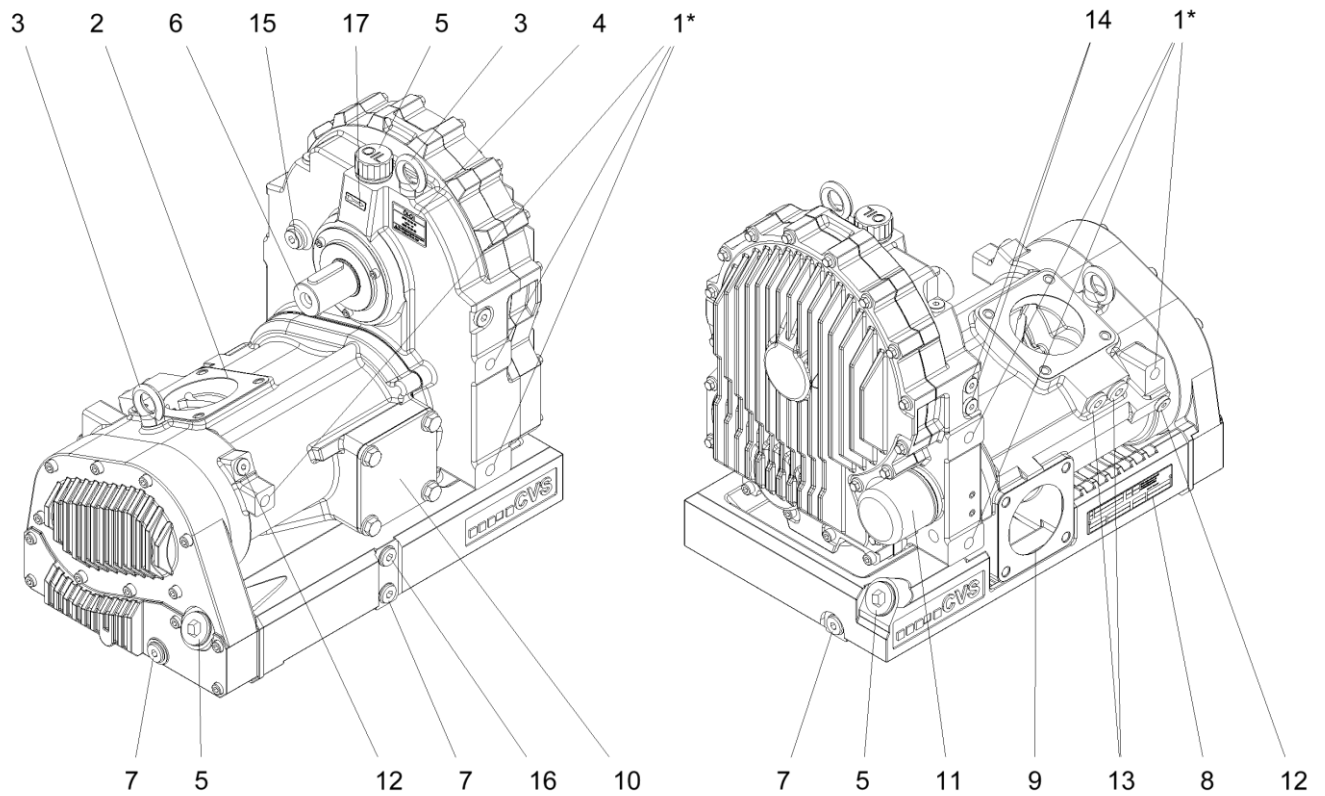

Fig. 2: Compressor view
The compressor is mounted on 3 attachment points M16 (see Fig. 2, pos. 1) either right or left on each side of the compressor, inside the vehicle frame.